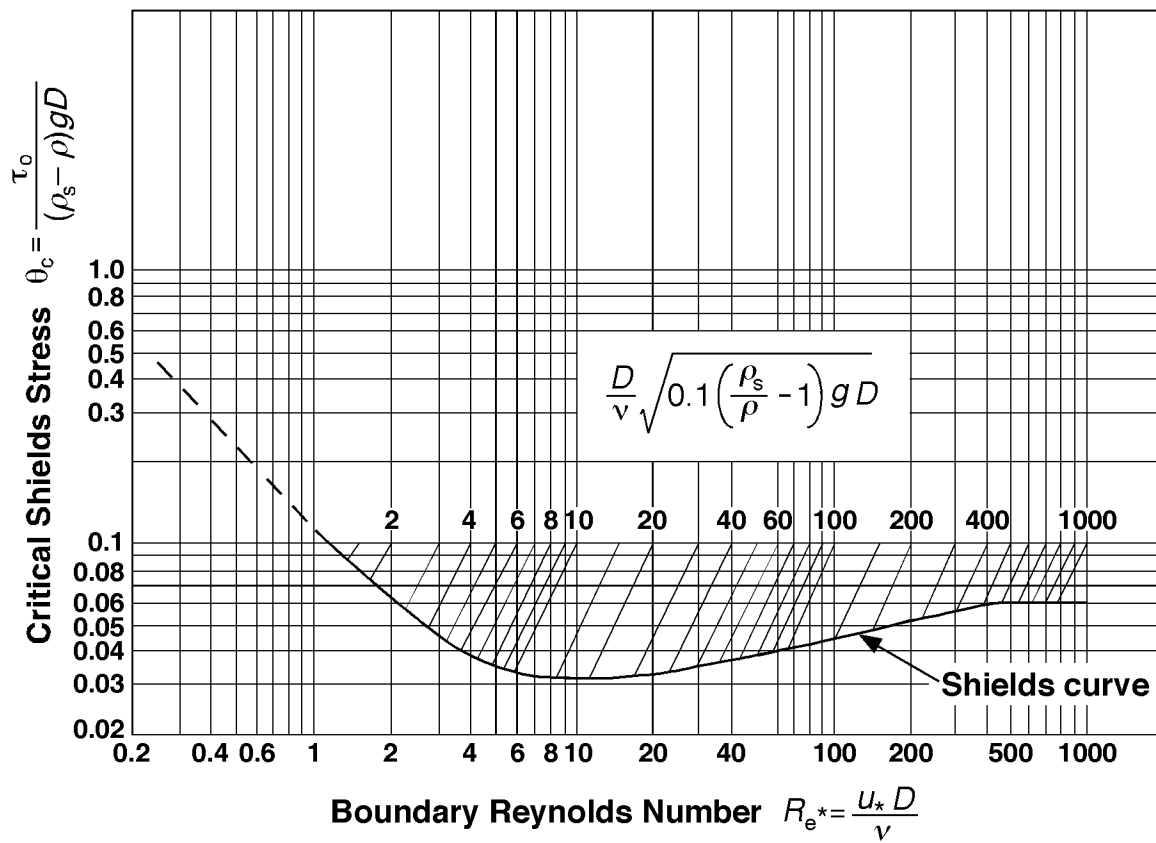

Figure 3. Shields diagram.
3. To solve equation (3) you first need to calculate the boundary shear stress (τ_o) (g/cm s²) (shear force applied to a unit area of the sediment surface exerted by the fluid). This is done by using the Shields diagram (Figure 3).
b. Find this value on the Shields diagram (Figure 3) and read downward, following the line, to the Shields curve. Then read over to the y-axis. This new value is the Shields critical boundary stress (θ_c) (dimensionless).